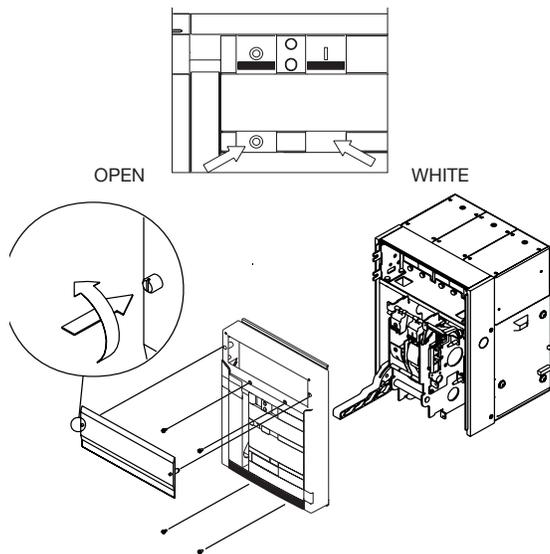
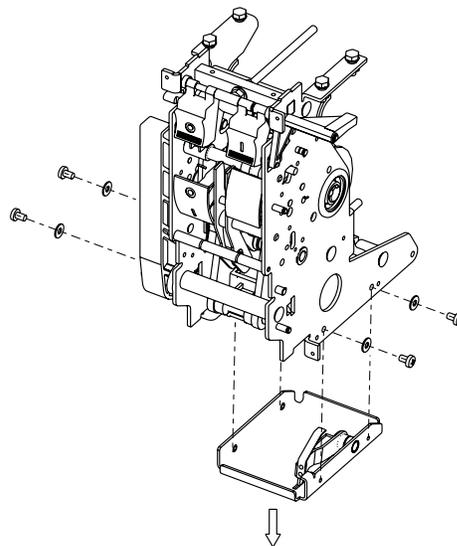
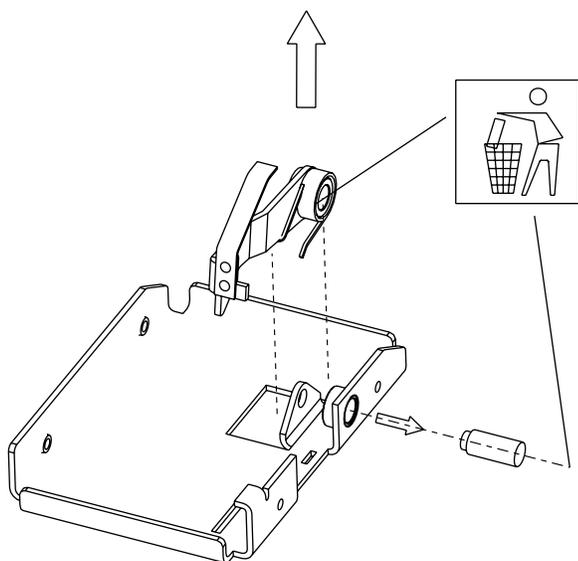
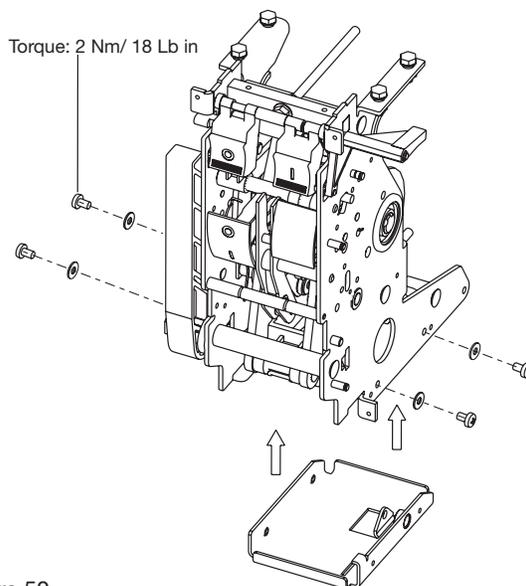

Figure 47.
Figure 48.
Figure 49.
Figure 50.
WARNING: The undervoltage release (YU) is incompatible with the Fail Safe device (preventing withdrawal when the spring is loaded). If a Fail Safe device is present, remove it as indicated in Figure 47, Figure 48, Figure 49 and Figure 50.